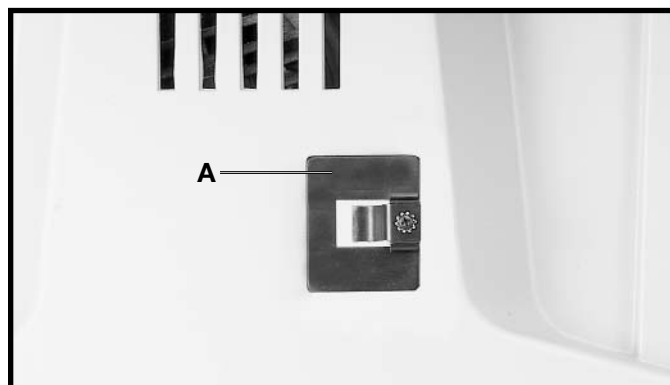
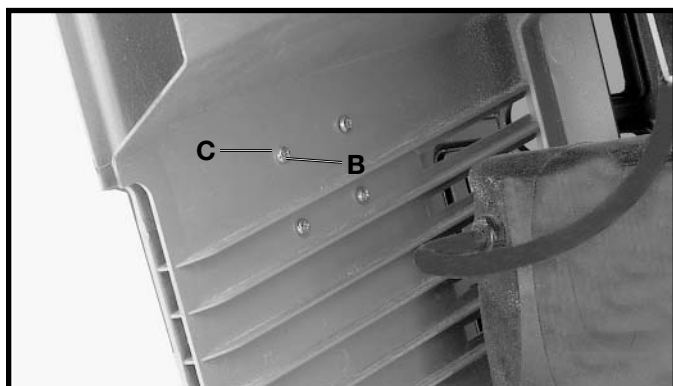

Fig. 21
Fig. 22
3. Assemble the miter gage holder (A) Fig. 21, to the left side of the saw cabinet using the four M4x.2x10mm screws (B) Fig. 22, and 3/16" flat washers (C) from inside saw cabinet.